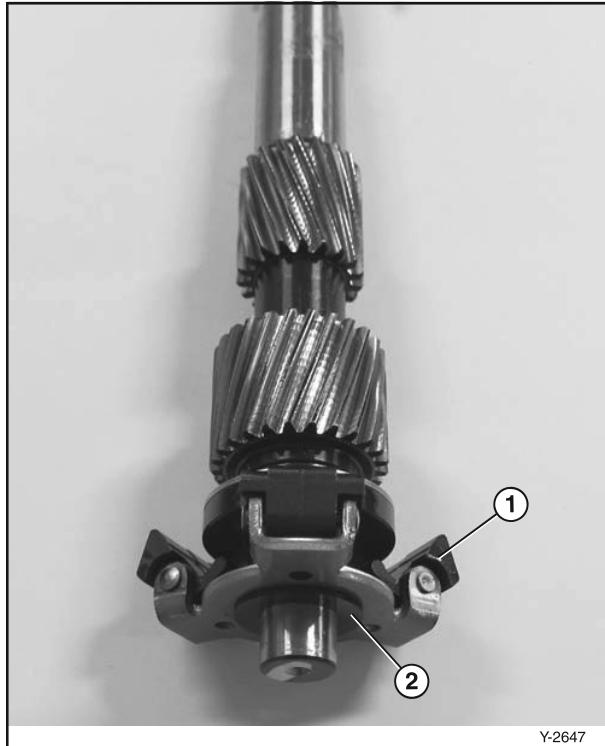

Figure 6-51
21. Inspect the weights (**Figure 6-51, (1)**) for the governor. Make sure they move freely.
22. Make sure the shim (**Figure 6-51, (2)**) is smooth on both sides.